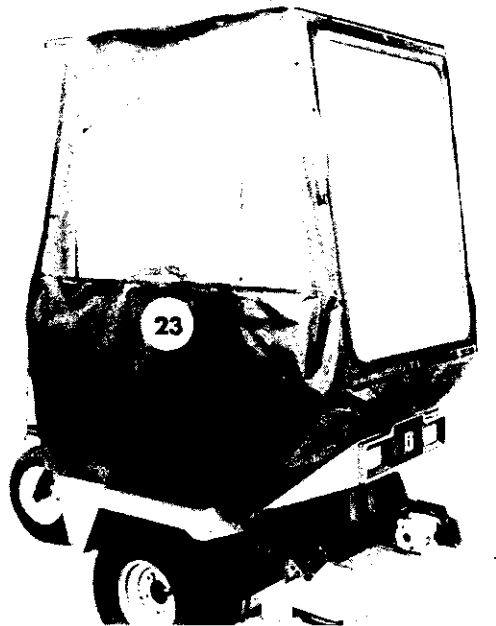

FIGURE 10
STEP 10; SEE FIGURE 10:
- A. Close the snap flaps at the top of the **RIGHT PANEL (23)**, around the top frame. Connect the snaps on the windshield to the vinyl. Fasten the velcro strips on the front panel vinyl and right panel together.